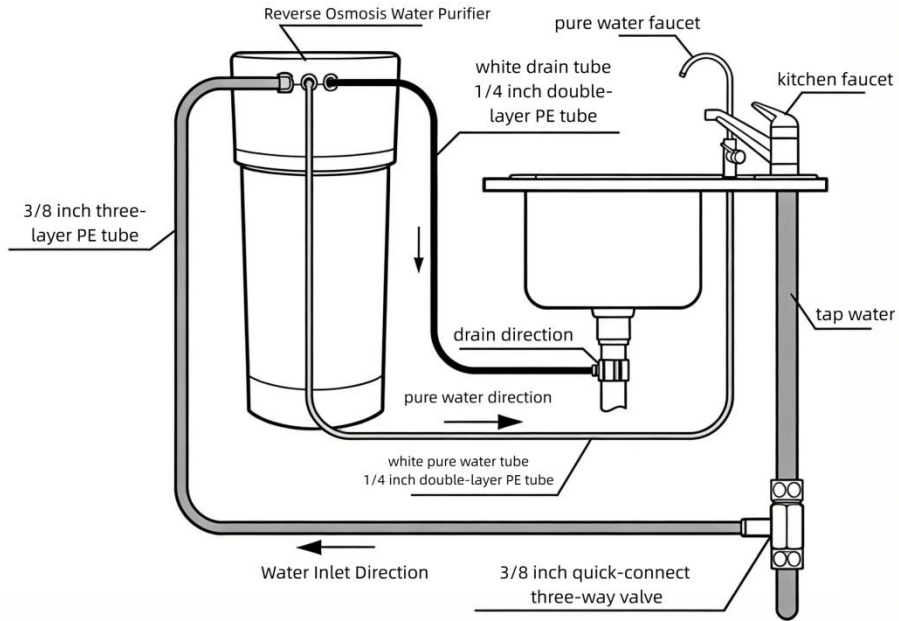

图 4.RO 无电净水器安装示意图
- Set the shut-off valve on the connection node to the open position, as shown in Figure 4.